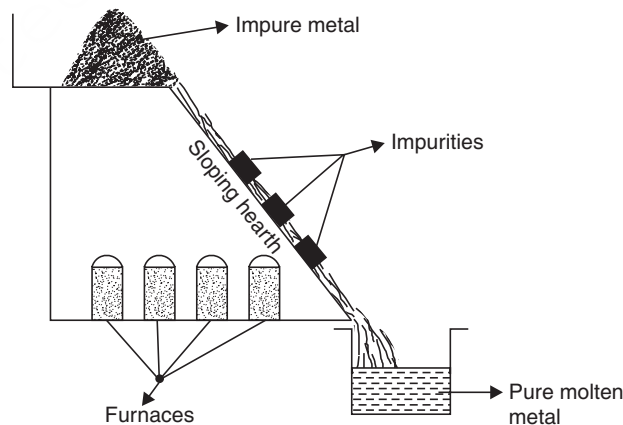

Fig. 14.11 Refining of metal by Liquation.
- *Liquation.* An easily fusible metal such as tin or lead can be refined by this process. The impure metal containing infusible impurities is heated on the sloping hearth of a special type of furnace (Fig. 14.11), as a result the metal melts and the molten metal flows down the sloping hearth leaving behind the infusible impurities on the top.